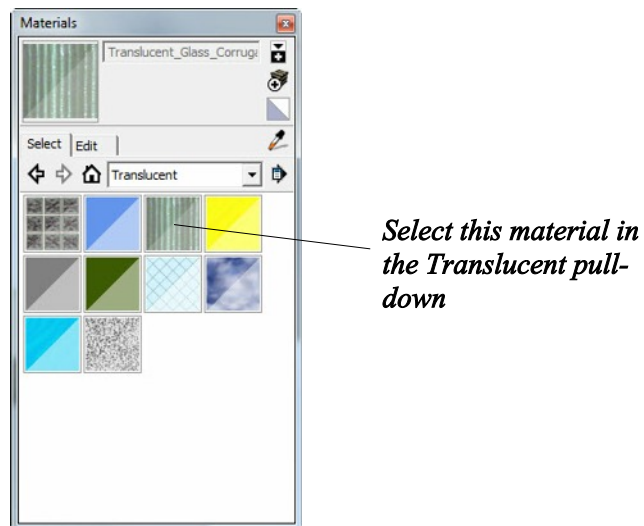

Figure 54. The material selected for the face of the window glass areas
- Select the **Paint Bucket** and the **Materials** dialogue box will appear as shown in Figure 54.